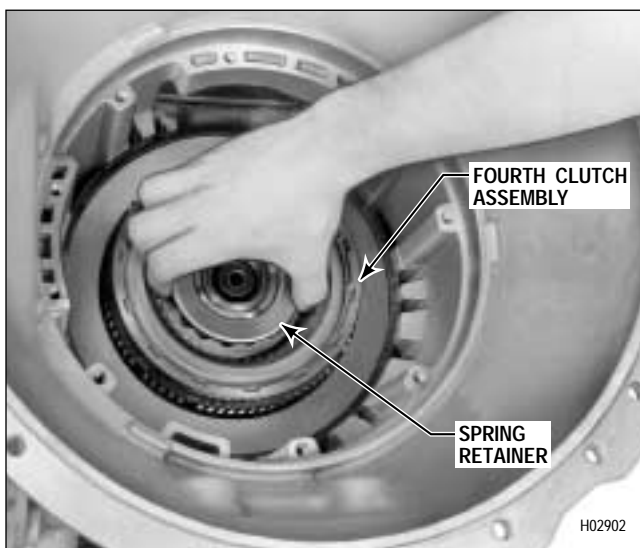

Figure 5-15. Removing Fourth-Clutch Assembly
(1) Grasp the spring retainer on the fourth clutch (Figure 5-15), and lift out the fourth clutch assembly. Refer to Paragraph 6-11 for rebuild of the fourth clutch assembly.